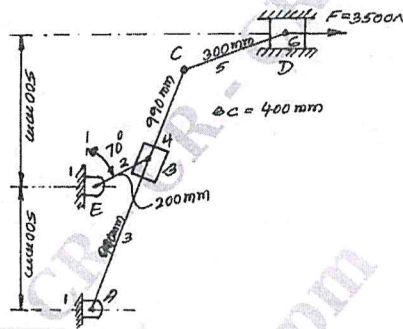

Fig. Q1 (b)
- b. For the static equilibrium of the quick return mechanism shown in Fig. Q1 (b). Find the required input torque T_2 for a force of 3500 N on the slider. Angle of EB with the vertical is 70° . The impending motion of the slider is to the left. (12 Marks)